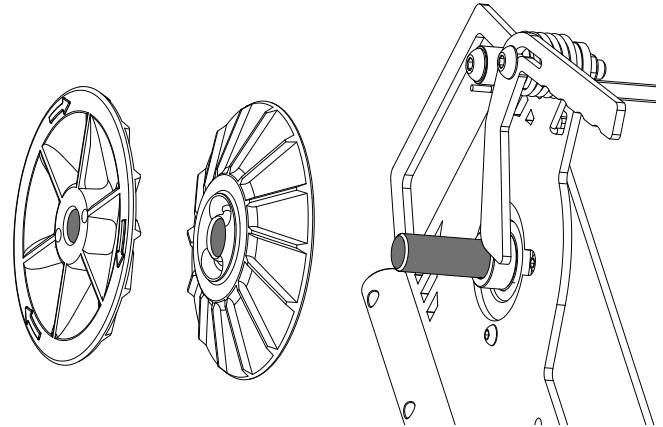

Figure 9
4. Unscrew the V-Pulley by rotating the outer half clockwise with a 1.25" spanner wrench and 7/32" studs. Once the V-Pulley is loose, continue unscrewing and slip both halves off the drive shaft. (Fig. 9) The V-Pulley has a left-handed thread.